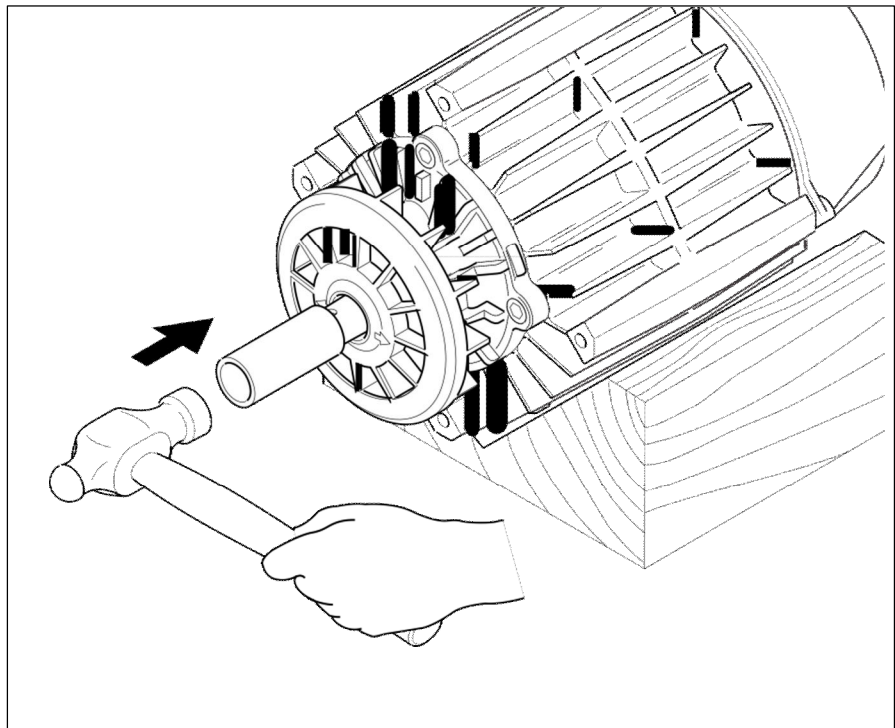

Figure 13. Fitting the fan(s) using a dolly.
8. Place the fan onto the shaft & press the fan over the star tolerance ring until it is fully located using a tubular dolly. See fig 13.